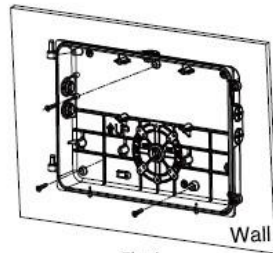

Fig6
**Method A:** Attach the rear housing to the wall using 3 screws (not provided) (Fig6).